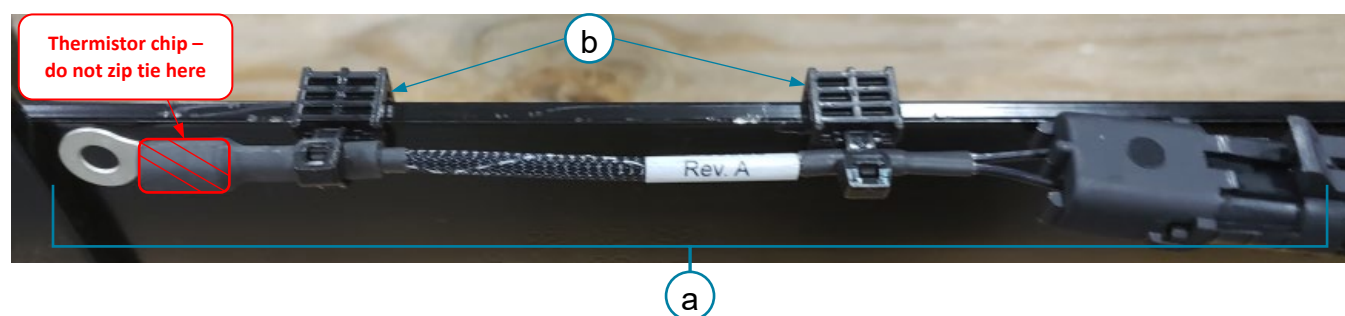

*Figure 8. Thermistor (a), edge clips (b).*
3. Mount thermistor p/n 10400559 to fuel system frame using two p/n 10712380 edge clip zip ties by positioning one edge clip zip tie at each end of the thermistor. *Figure 8*